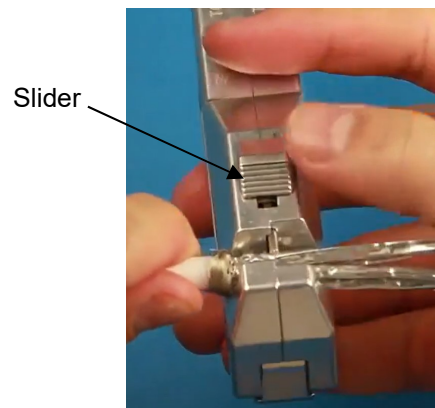

Figure 6
4. Use Jack termination tool to strip the foil shield of each twisted pair cables. Pull the 'Slider' & place the cable in the tool and then release the slider as shown in Figure 6. Keep the cable fixed and rotate the tool once.